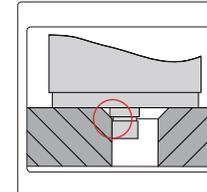

fig.2
- For the calibration that the reading is adjusted to zero,the chamfer height $L = R + b$ (fig.2).